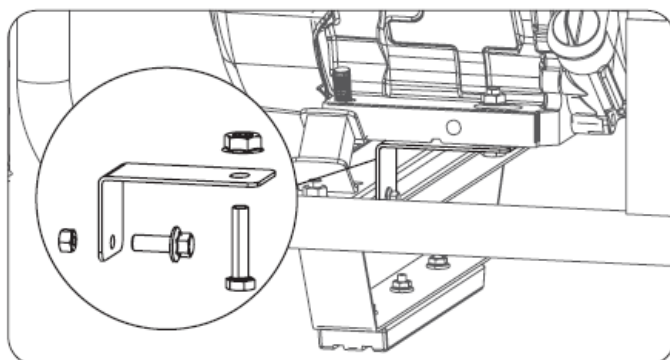

Fig.1
6.1 Remove Shipping Bracket (See Fig.1)